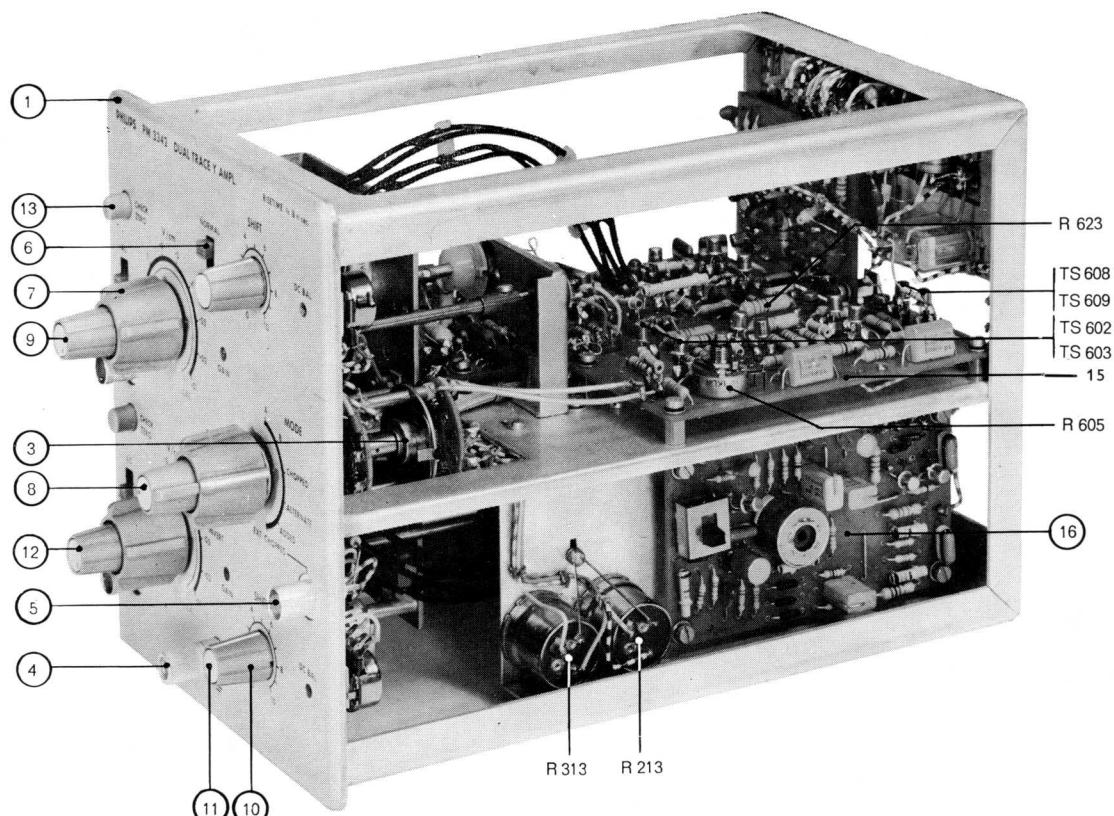

Fig. 6. Right-hand view
##### R213 (Fig. 6)
### R313 (Fig. 6)
### R605, R623 (Fig. 6)
- Short-circuit the input of the trigger amplifier by interconnecting the bases of transistors TS602 and TS 603 (See Fig. 6).
- Measure the voltage on the output of the amplifier between the emitters of transistors TS608 and TS609. (See Fig. 6).